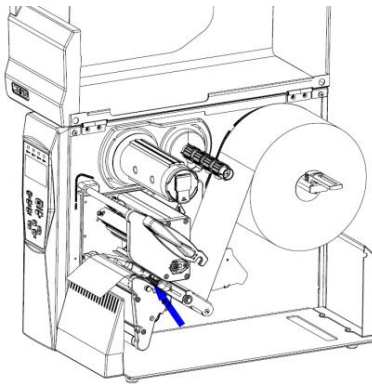

Fig. 2.4.2
- 2) Install the paper roll leftward on the paper holder, pull out and place the paper head flatly in the paper path, align it leftward and slightly tighten the paper with the movable paper guide (see Fig. 2.4.2);